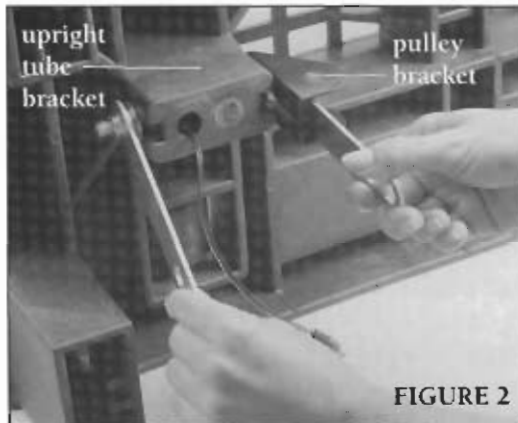

FIGURE 2
9. Tighten the nut with the two large flat wrenches (Figure 2).